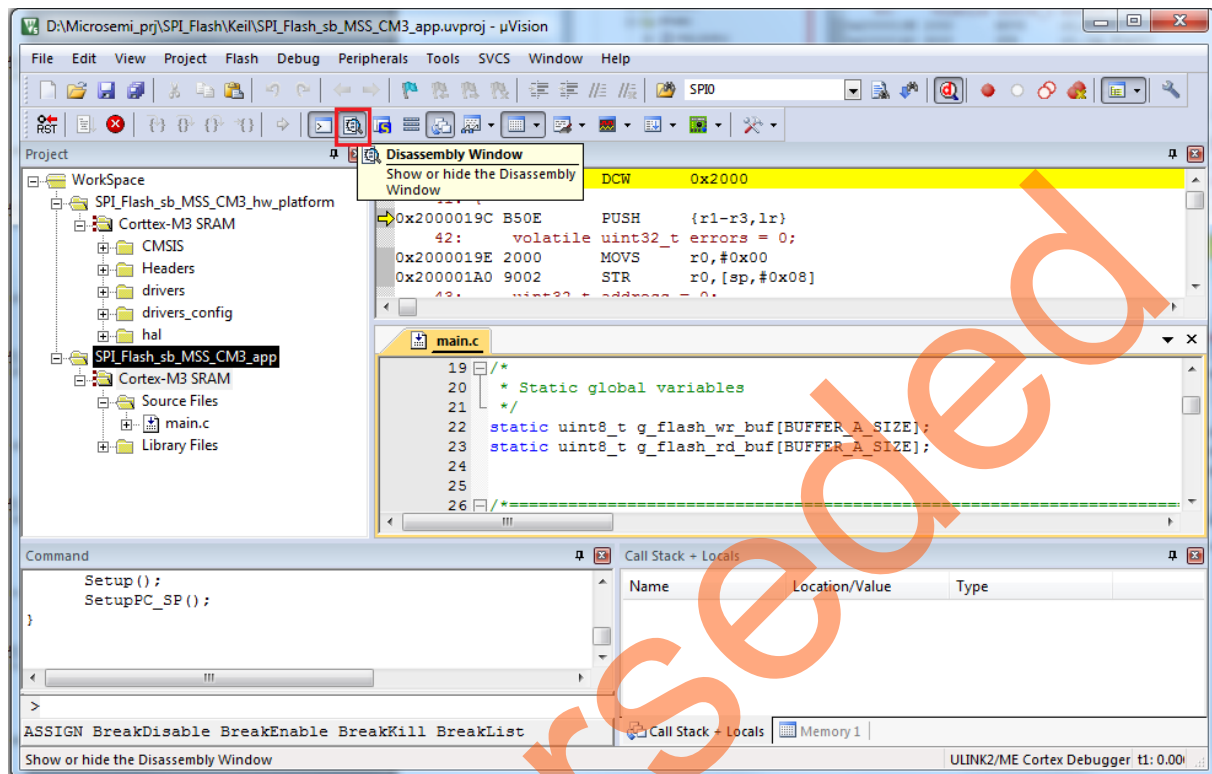

Figure 42 • Disassembly Window
The **Disassembly** window is displayed in the middle of the **Debug** section as shown in Figure 42. If not, click the **Disassembly** icon to display the **Disassembly** section.
6. Click **Registers Window** to view the values of the ARM® Cortex®-M3 processor internal registers as shown in Figure 42.